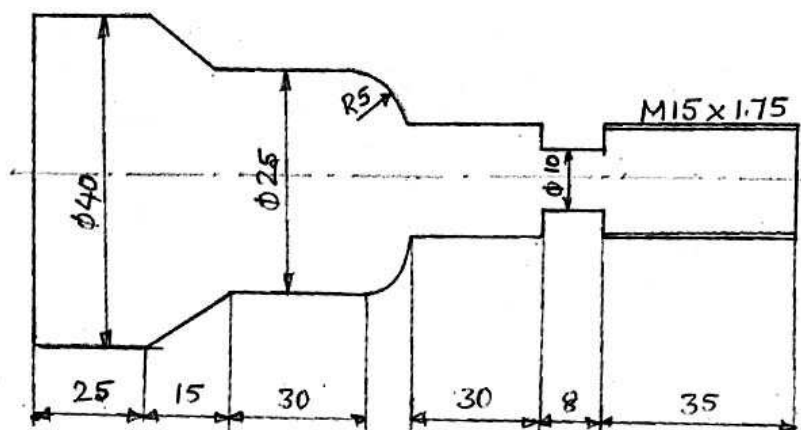

Fig.7(b) All Dimensions are in mm.
b. Prepare the manual part program for the part shown in Fig. 7(b). Assume suitable data for machining parameters and tooling.